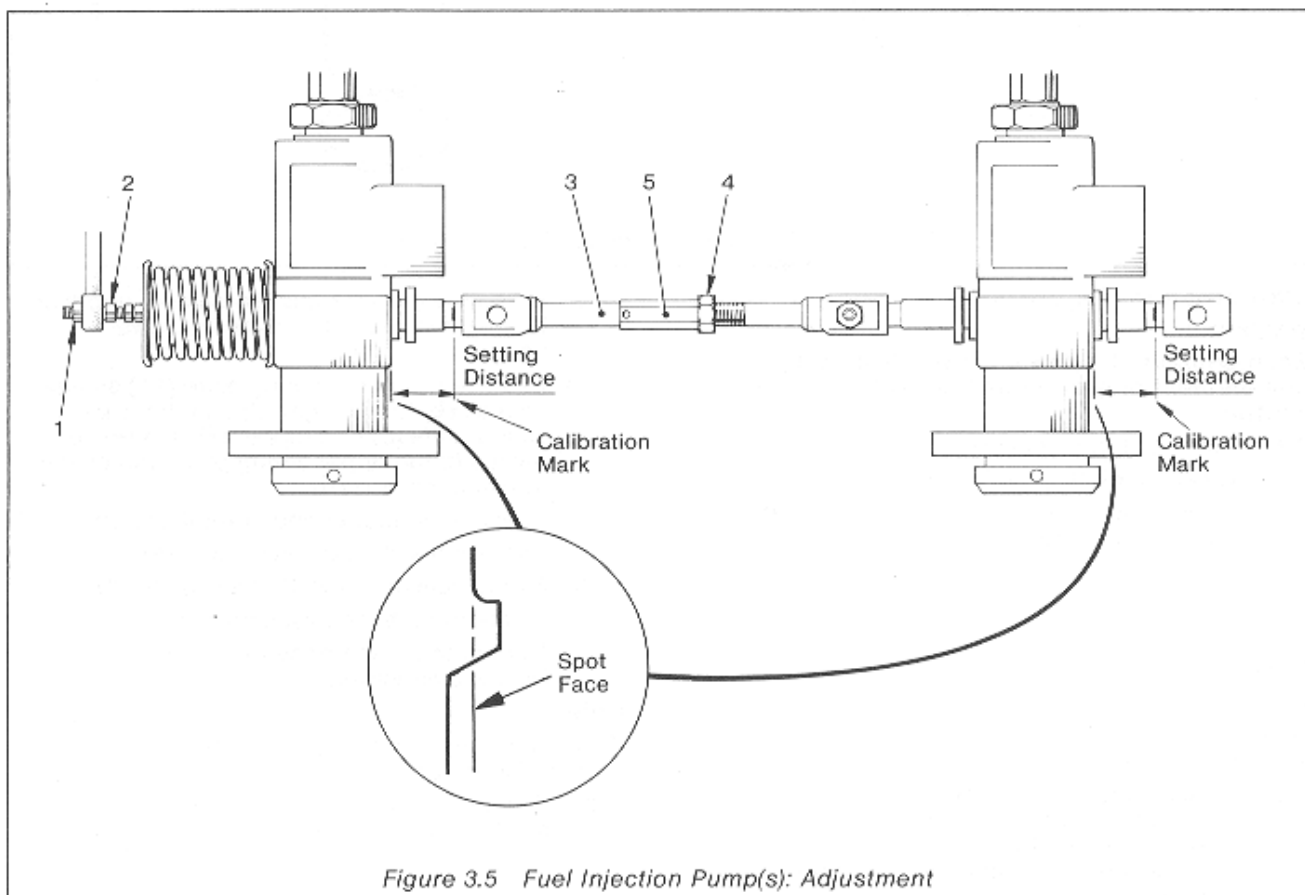

Figure 3.5 Fuel Injection Pump(s): Adjustment
## Adjustment (Figure 3.5)
- (1) Remove the four 5/16 in BSF bolts and spring washer retaining the fuel pump bracket cover. Take extra care when removing the cover on which a speed control is mounted.
- (2) Secure the fuel injection pump rack with the calibration mark (Figure 3.5) 20.6 mm (13/16 in) from the spot face on the pump body, not the rack bush.